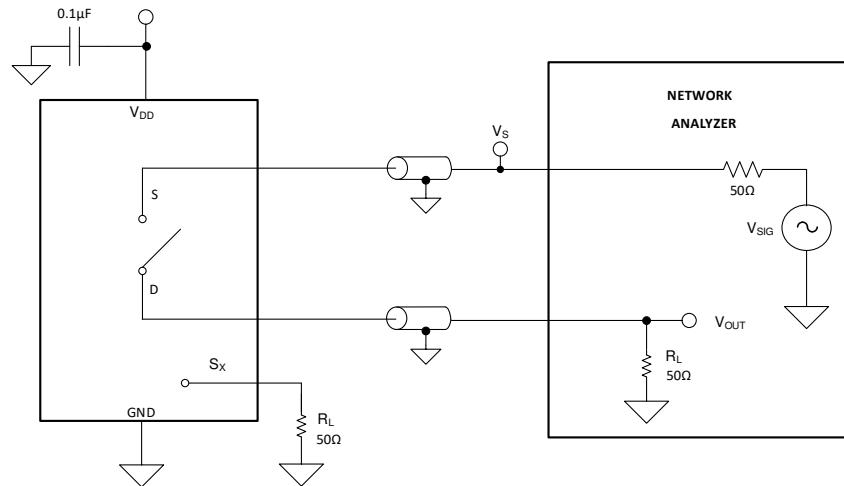

图 22. Off Isolation Measurement Setup
Off isolation is defined as the ratio of the signal at the drain pin (D) of the device when a signal is applied to the source pin (Sx) of an off-channel. 图 22 shows the setup used to measure, and the equation used to calculate off isolation.